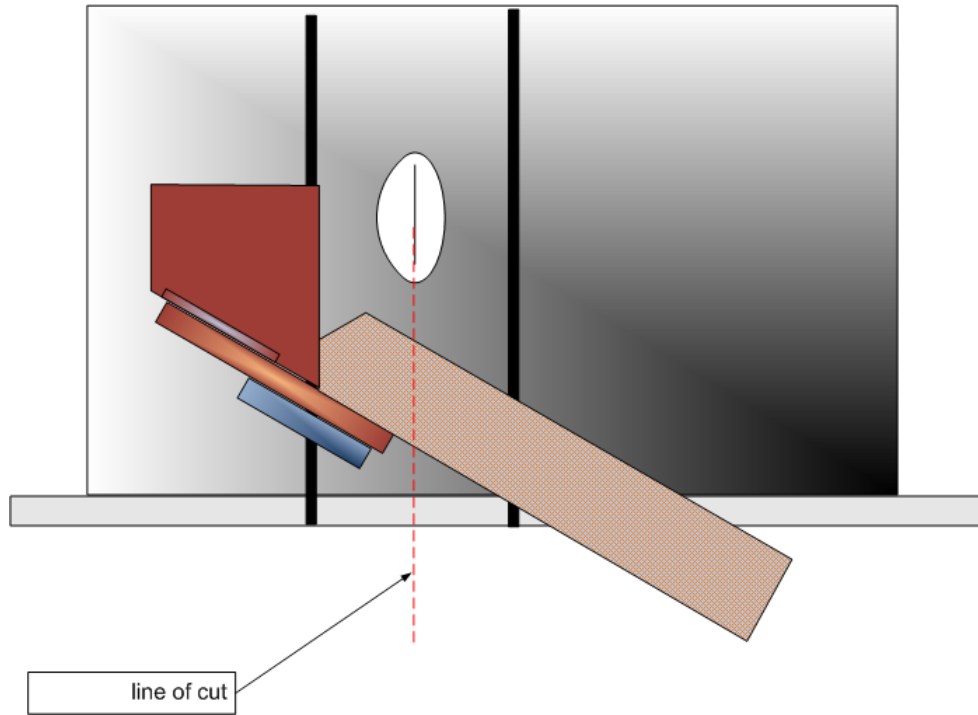

Figure 10. Third Cut
Step 6. Place the stock as shown in Fig. 10, and make the third cut.